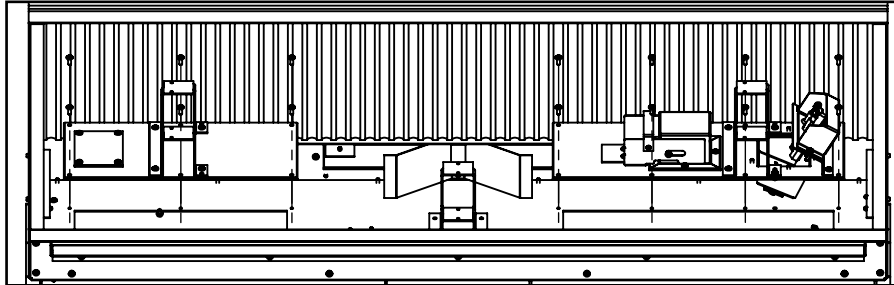

Figure 7. Removing Access Door
2. Remove the (14) T-20 bolts retaining the access panels as shown in Figure 7.